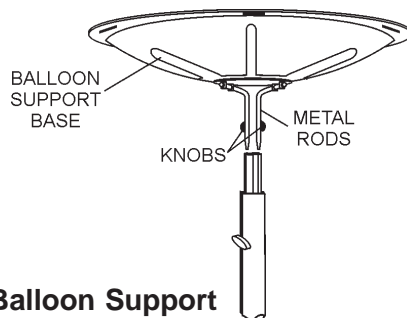

Figure 3. Balloon Support
3. Insert the balloon support base metal rods (Figure 3) into the slots on the pole and tighten the knobs to secure them in place.